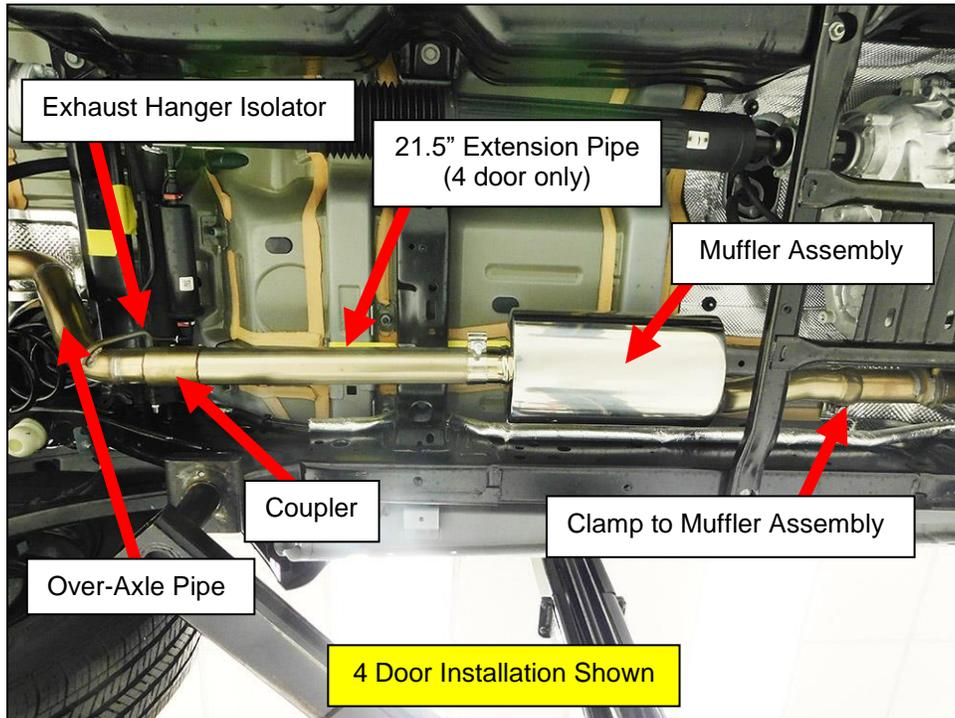

Figure 3
2. Install the over-axle hanger rod into the exhaust hanger isolator on the frame rail (**Figure 3**).
4. Align the over-axle tube to the extension pipe and slide the coupler on to the over-axle pipe with a 50/50 split between the extension tube and the over-axle pipe. Tighten the coupler to allow for adjustment (**Figure 3**).